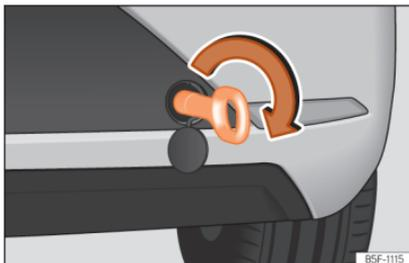

Fig. 103 Right side of the rear bumper: towline anchorage screwed in.
- Screw the towline anchorage into the screw connection as far as it will go »» Fig. 103 and tighten with the wheel brace.